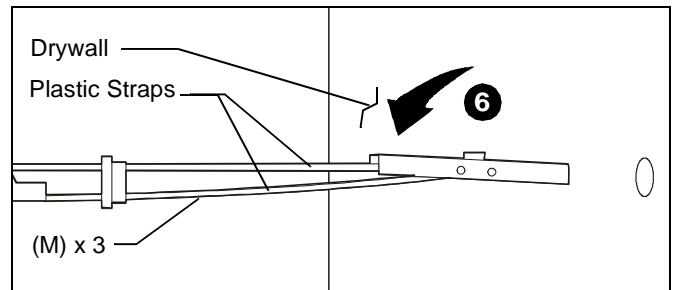

Figure 6
- Hold metal channel on anchor (M) flat alongside plastic straps and slide channel through hole. (See Figure 6)